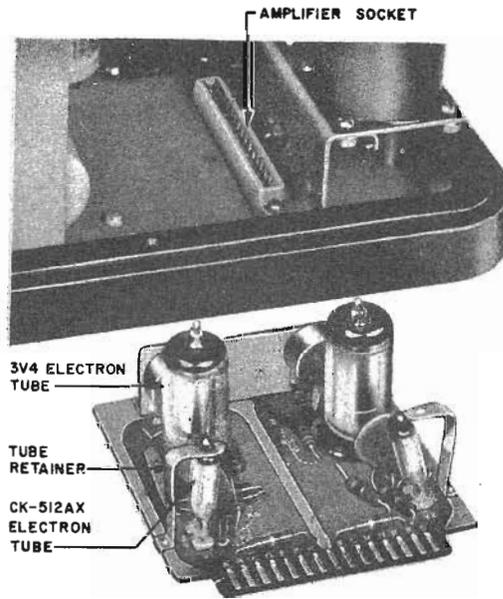

Fig. 4 — KS-14990 Amplifier
- 2.08** The KS-14990 amplifier (Fig.4) is used in the KS-14964, List 2 control unit.